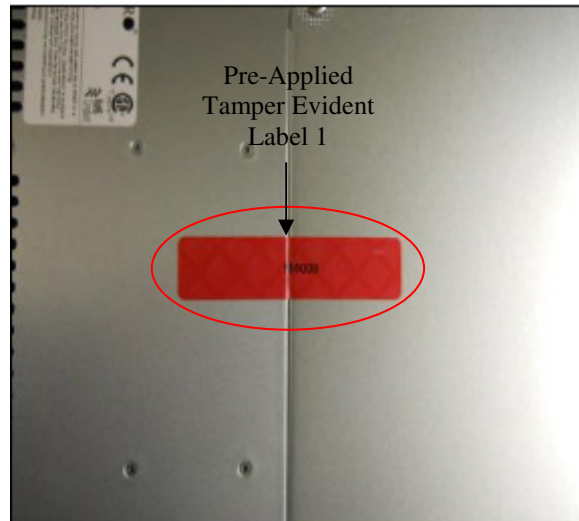

Figure 13 – Sealed Top Cover of B400r1
The B400r1 with tamper evident label kit – part # TEL135325 – and front bezel – part # FB000400 – will be shipped from the factory with five labels. Three labels are pre-applied at factory (see Figure 13 and Figure 14 below). Two labels are to be applied by the Crypto-Officer on chassis top and bottom overlapping the front bezel (see Figure 15 below). This is to allow the end-user to reseat the drives upon receipt before affixing the front bezel to the appliance.
1. Inspect all tamper-evident labels that shipped pre-applied to the B400 chassis (see Figure 13, Figure 14, and Figure 15 below), ensuring that each label shows no sign of tampering and is properly placed. Any attempt to reposition or remove the label will result in the voiding of that label and leave a residue on the surface. If you find a label that is questionable in appearance, contact Bomgar support toll-free at 1-877-826-6427 x2 or internationally at +01-601-519-0123 x2.